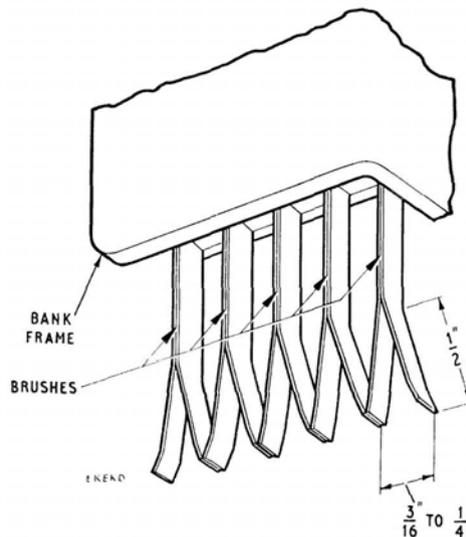

FIG. 4
5. **Adjustment of brushes.**—The two springs of each brush should lie flat against each other from their base to a point  $\frac{1}{2}$  in. from the tips. From this point, the tips of the two springs should be set outwards so that there is a space of  $\frac{3}{16}$  in. to  $\frac{1}{4}$  in. between the tips (see Fig. 4). Each pair of brushes should be at right-angles to their mountings.